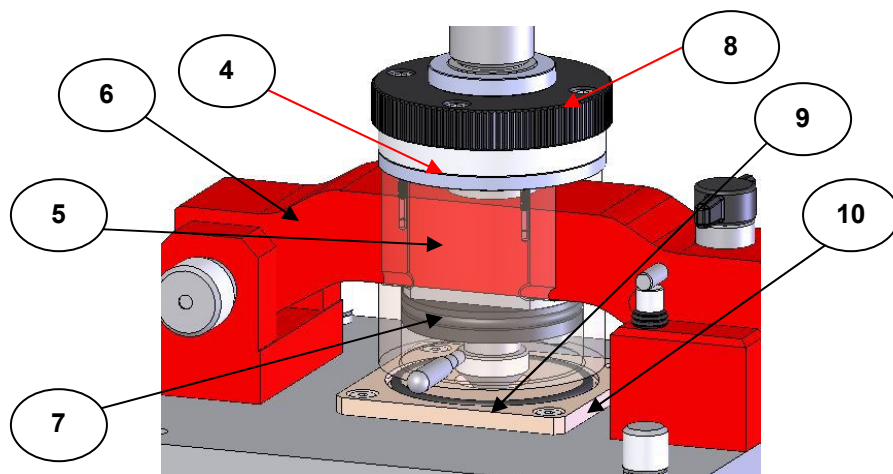

Fig 4. Envirochamber Golden Gate™ Cap Assembly detail – PEEK Cap (5) made transparent to see internal Viton O-ring (7)
The Envirochamber Cap assembly (4) of the Heated Envirochamber Golden Gate™ top plate has been incorporated into the general bridge, clamp anvil and torque knob assembly mechanism. The PEEK cap part (5) slides past the bridge (6) and sealing is created for this sliding action by use of a Viton O-ring (7). The cap (5) is raised or lowered by rotating the black coloured, knurled knob (8). Rotating the knob (8) clockwise lowers the cap (5) and turning it anticlockwise raises the cap (5). When lowered, the circumference edge of the cap (5) presses and seals against a Viton O-ring (9) that is held within the PEEK material surface plate (10). (See Fig 4.)